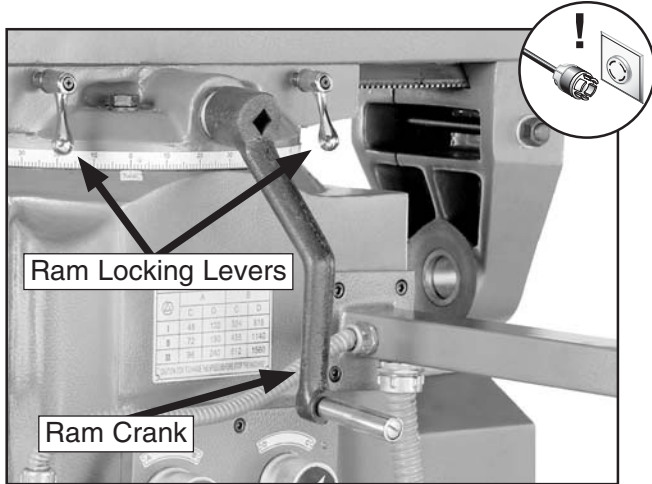

Figure 32. Moving the ram along a linear path.
2. Loosen the ram locking levers on the side of the ram (see **Figure 32**).